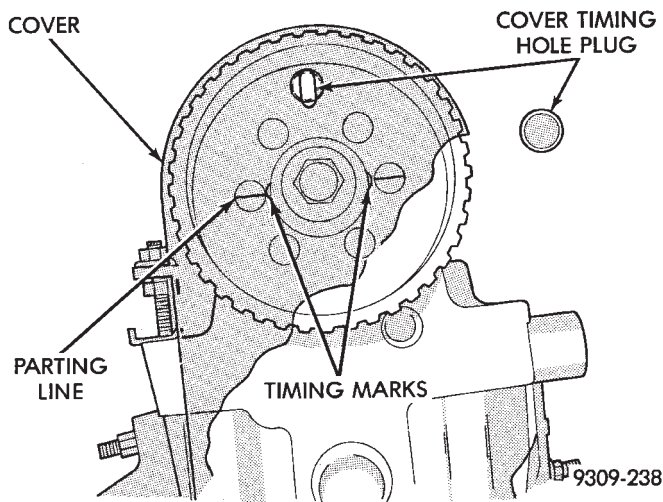

Fig. 12 Camshaft Timing
(2) Turn camshaft until arrows on hub are inline with No. 1 camshaft cap to cylinder parting line. Small hole (arrow Fig. 12) must be in vertical center line.
(3) Install timing belt.
(14) Install fasteners holding cover to cylinder head and block. Tighten fasteners to 4 N•m (40 in. lbs.) torque.
(15) Valve Timing Check; (timing belt cover installed). With number one cylinder at TDC, small hole in sprocket must be centered in timing belt cover hole (Fig. 12). If hole is not aligned correctly perform procedure again.
(16) Install spark plugs.